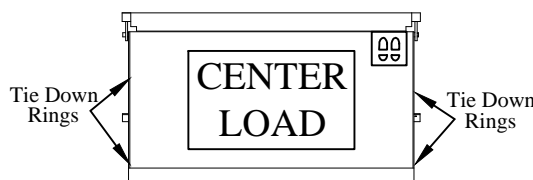

Figure 18: Step 12.
- Step 12. To load and use the railgate, center the load on the platform side to side and front to back (Figure 18). Put heavier loads as close to the front of the platform as possible (near truck). Platform cart stops may be actuated at this time, if equipped. Tie down rings are provided to help secure the load.